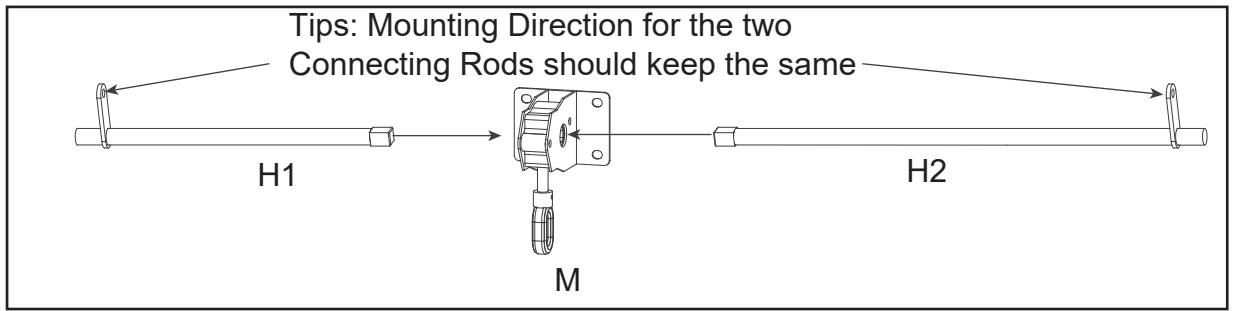

Figure 8.1
8. Insert one side of the two Connecting Rods (H1/H2) into the Spinner (M) and the other side into the Spinner (M), then attach the Spinner (M) to the Rear Lintel (F1/F2) and secure it with the Bolts (AA) and Washers (HH). Finally the other end of the Connecting Rods (H1/H2) is attached to the Lintels (B/C/E) using Bolts (CC), Washers (GG/HH) and Nuts (FF). See Figure 8.1- 8.3.